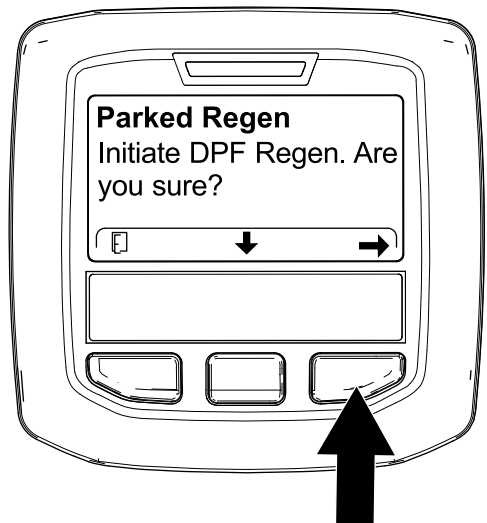

Figure 62
- At the INITIATE DPF REGEN screen, press the right button to continue (Figure 62).